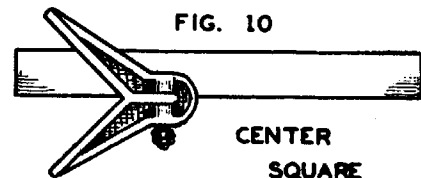

FIG. 10
3. The center head forms a center square when clamped to the steel rule. (Fig.10). The sides of the center head are placed on the outer surface of round jobs and the center is found by scribing lines along the edge of the rule.